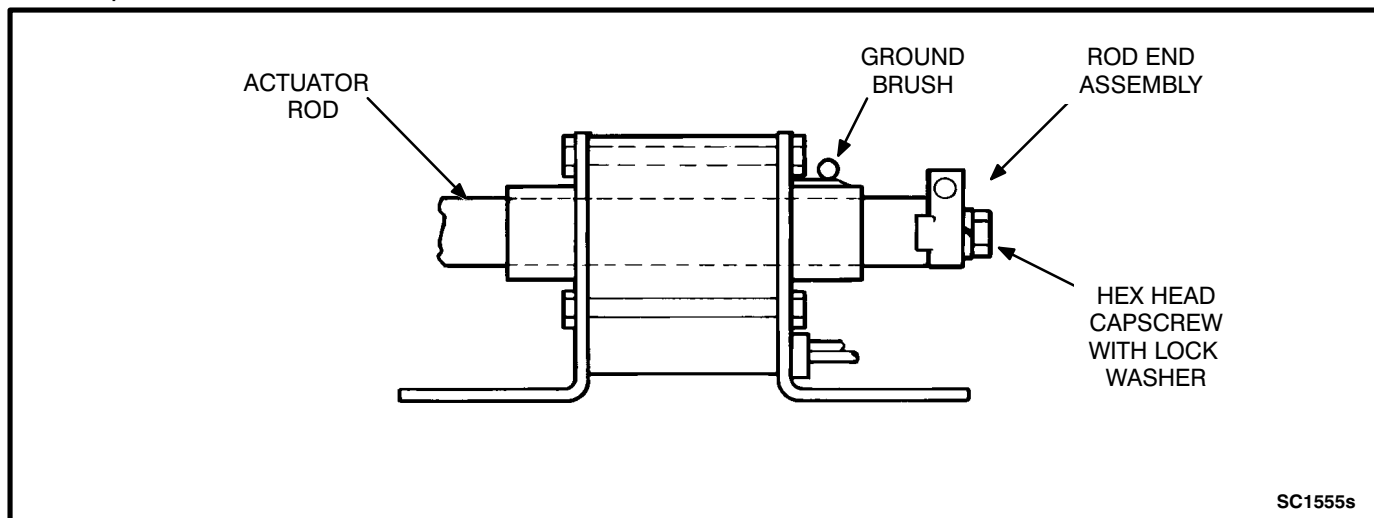

FIGURE 4-2. LINEAR ACTUATOR (40 TO 125 AMPERES)
8. Remove the rod end assembly from the actuator rod (Figure 4-2) and slide the rod out of the actuator.
1. Insert the actuator rod into the replacement actuator motor from the side opposite the ground brush (Figure 4-2). Install the rod end assembly and tighten the capscrew to 70 to 75 in-lbs (7.9 to 8.5 N•m).